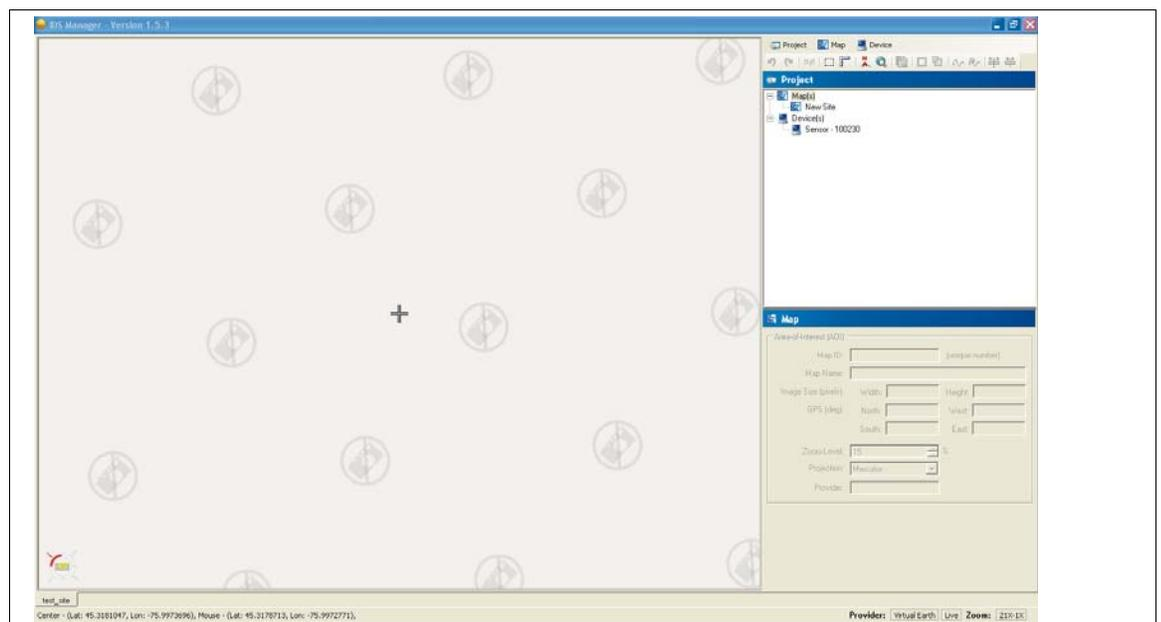

Figure 35 No image available (reduce the zoom level)
**Note** If the selected zoom level is too high, there will not be an image available (see Figure 35). Reduce the zoom until an image displays.